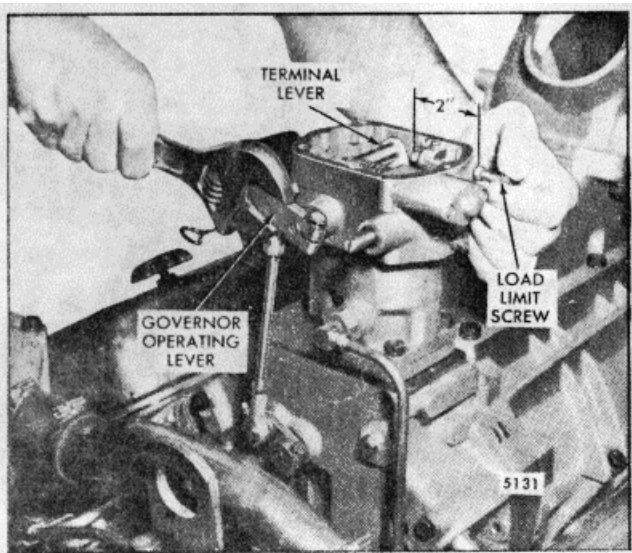

Fig. 6. - Adjusting Load Limit Screw
boss in the governor housing (Fig. 6). Adjust the vertical link so that all of the injector racks are in the full-fuel position, then tighten the rod end locknuts securely.
1. Loosen the load limit screw locknut and adjust the load limit screw to obtain a distance of approximately 2" from the outside face of the boss on the governor subcap to the end of the screw. Then, place and retain the governor operating lever in the full-fuel position (Fig. 6).